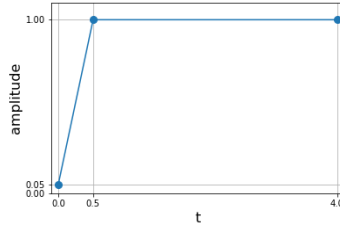

Figure 2: Solid simulation: Amplitude over time for the applied load
- Replace `RAMPSEQUENCE` with the sequence `0.0, 0.05, 0.5, 1.0, 4.0, 1.0`. This is a sequence of value pairs `{time, amplitude}` as in Figure 2.